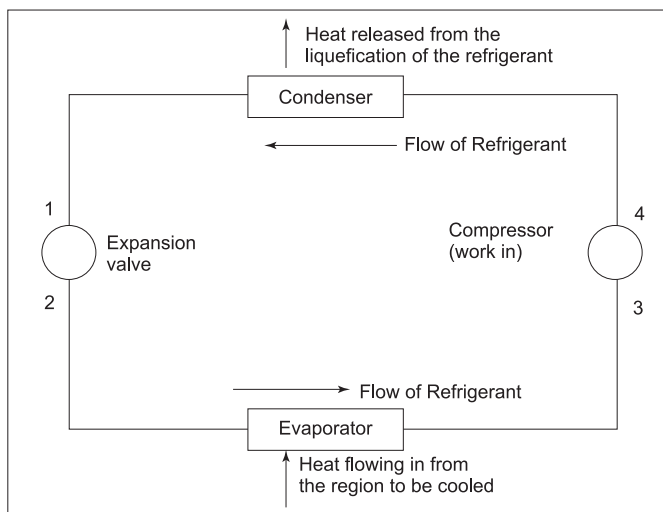

Figure 1.3 *Working principle of a refrigerator*
3. **Refrigerators:** A refrigerator is a device which produces cooling effect and can be used at a domestic or an industrial scale (Figure 1.3). In either case, the goal is to remove heat from objects kept inside it in order to produce a cooling effect. This device finds application in household, pharmaceutical companies, hospitals, offices and space missions. The calculations involved must be right otherwise which the drain of energy will terminate the mission and affect economically and environmentally. In a similar way, all discomfort shall be experienced due to wrong calculations in other places.